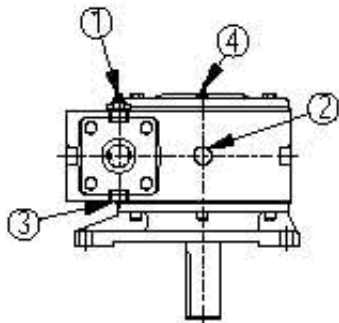

Figure W11:Output Vertical Down
- 3** Since the gearbox is positioned with the output vertically down, an adequate amount of lubrication must be supplied to the Bearing through grease fitting 4, figure W11, as indicated above.